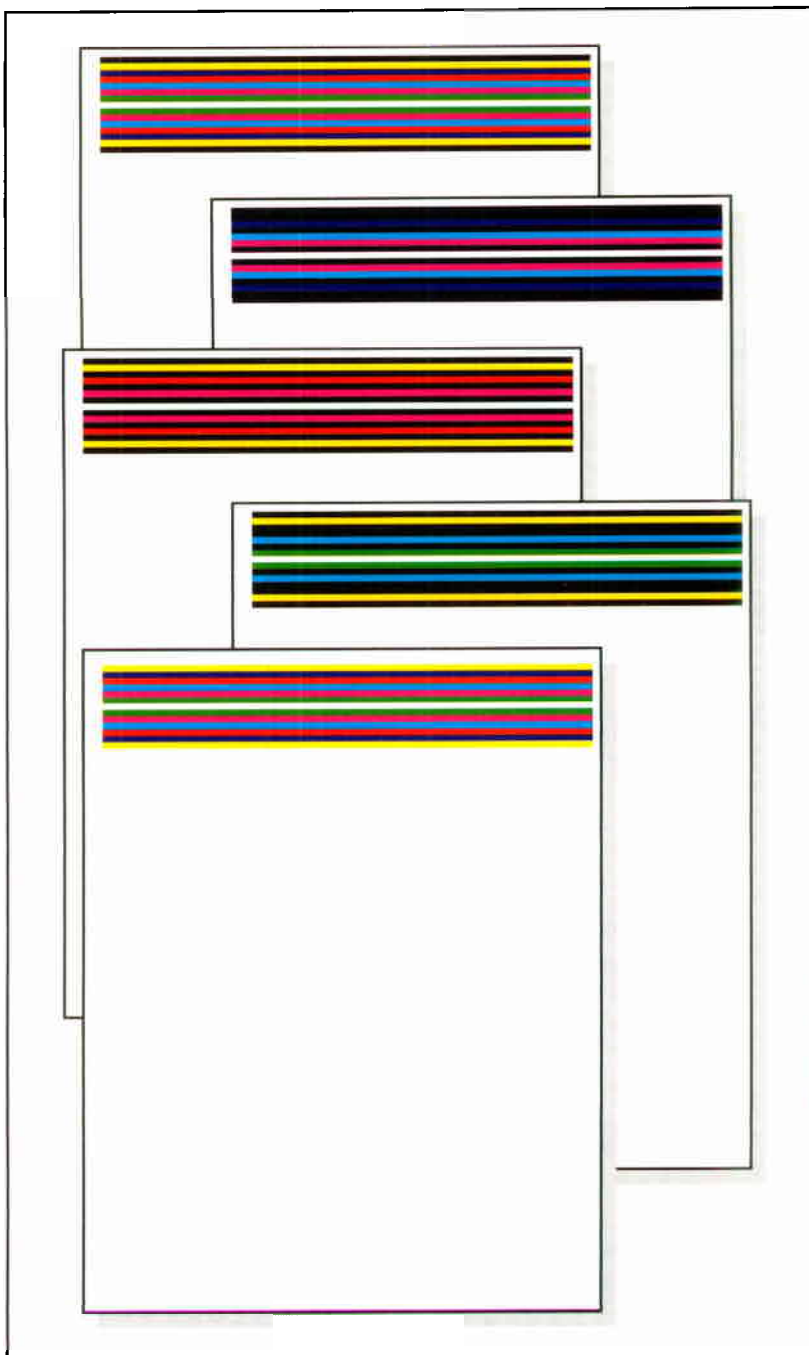

Figure 7-42 Extended Diagnostics Printouts
- Printing=ON\*/OFF The printing subtests test all primary and process colors, then turns off one color at a time. These test prints are shown in Figure 7-42. The tests exercise the Formatter's ability to control the print engine.
- FORMATTER=Y\*/N The default (Y) tests Formatter functionality. This is the recommended mode.
- MIO CMN=Y\*/N - N (ND\*), Y (ND) The MIO CMN (common) test is the default. N disables this test. MIO common means these tests are generic to any MIO configured for this printer. (ND) indicates that no MIO was detected at power ON, however the test may still be enabled to run by selecting Y (ND).
- MIO DPT= N\*/Y - N(ND), Y(ND) This selection enables the MIO dependent tests. (ND) indicates that no MIO was detected at power ON, however the test may still be enabled by selecting Y (ND). This test **requires a loopback connector**.
- SIMM=Y\*/N - N(ND), Y(ND). This selection enables the DRAM tests. (ND) indicates that no DRAM was detected at power ON. If ND appears in the display at power ON, and DRAM is installed, the memory may be defective. Before replacing the memory, check that the Formatter connectors are fully seated and in good repair.